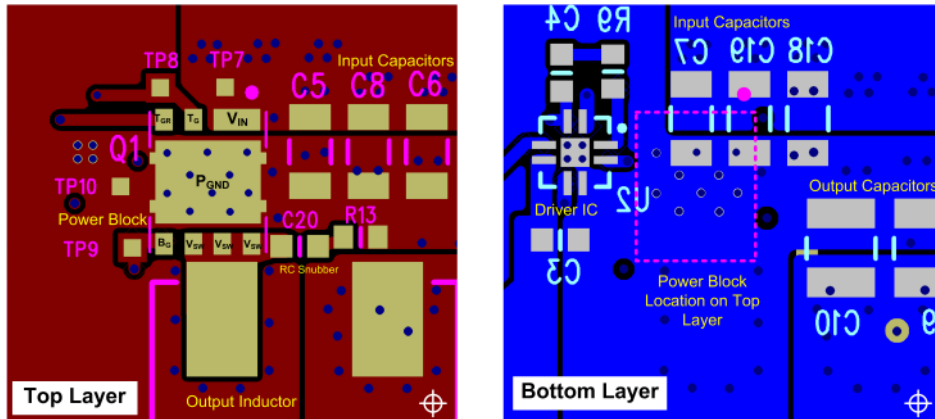

Figure 34. Recommended PCB Layout (Top Down View)
- The placement of the input capacitors relative to the power block's VIN and PGND pins should have the highest priority during the component placement routine. It is critical to minimize these node lengths. As such, ceramic input capacitors need to be placed as close as possible to the VIN and PGND pins (see Figure 34). The example in Figure 34 uses 6 × 10-μF ceramic capacitors (TDK Part # C3216X5R1C106KT or equivalent). Notice there are ceramic capacitors on both sides of the board with an appropriate amount of vias interconnecting both layers. In terms of priority of placement next to the power block, C5, C7, C19, and C8 should follow in order.
- The switching node of the output inductor should be placed relatively close to the power block VSW pins. Minimizing the node length between these two components will reduce the PCB conduction losses and actually reduce the switching noise level. In the event the switch node waveform exhibits ringing that reaches undesirable levels, the use of a boost resistor or RC snubber can be an effective way to reduce the peak ring level. The recommended boost resistor value will range between 1 Ω to 4.7 Ω depending on the output characteristics of driver IC used in conjunction with the power block. The RC snubber values can range from 0.5 Ω to 2.2 Ω for the R and 330 pF to 2200 pF for the C. Refer to Snubber Circuits: Theory, Design and Application (SLUP100) for more details on how to properly tune the RC snubber values. The RC snubber should be placed as close as possible to the Vsw node and PGND, see Figure 34.⁽¹⁾
- Use the smallest drill size allowed in your design. The example in Figure 34 uses vias with a 10-mil drill hole and a 16-mil capture pad.